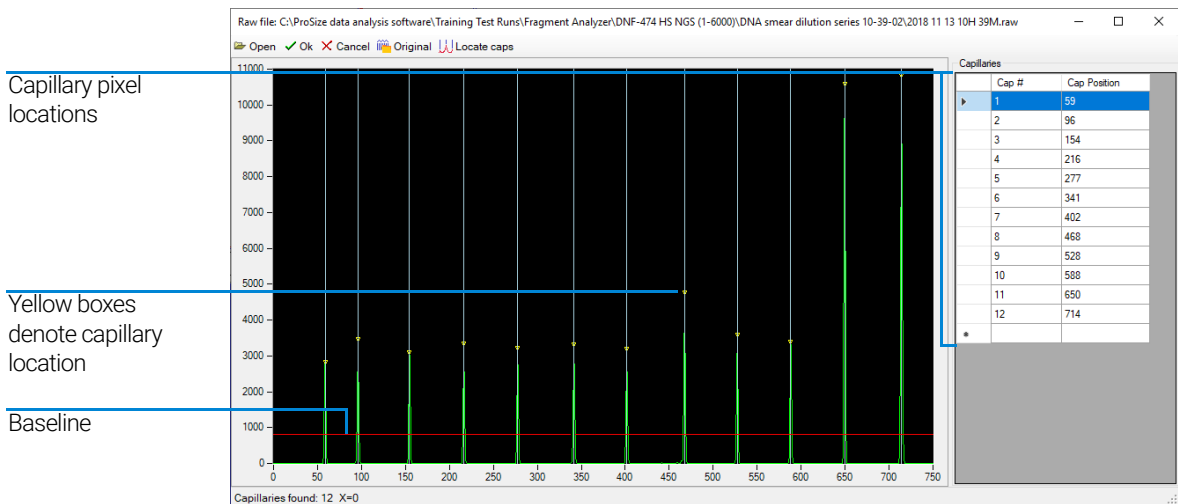
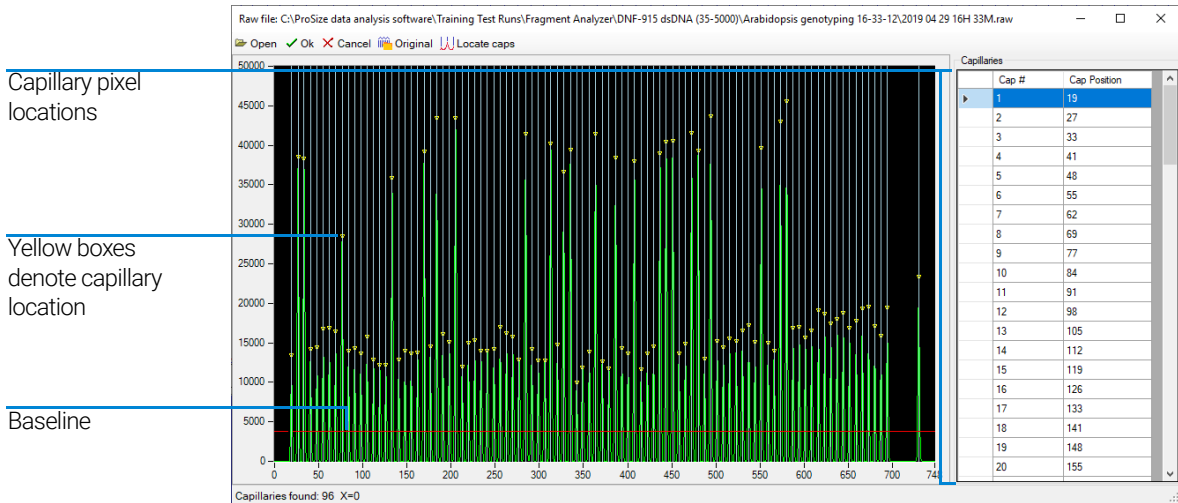

Figure 30 Align from file popup window for 12-capillary system
Figure 31 Align from file popup window for 96-capillary system
The *Align from File* window will open (**Figure 30** shows an example for a 12-Capillary and **Figure 31** for a 96-Capillary) allows you to align the capillaries from the selected run file. The toolbar of the *Align from File* windows is described in **Table 8**.
- 7 Left click on the red baseline and draw it upwards off the bottom of the graph but not above the top of capillary peaks, as shown in **Figure 30** and **Figure 31**.